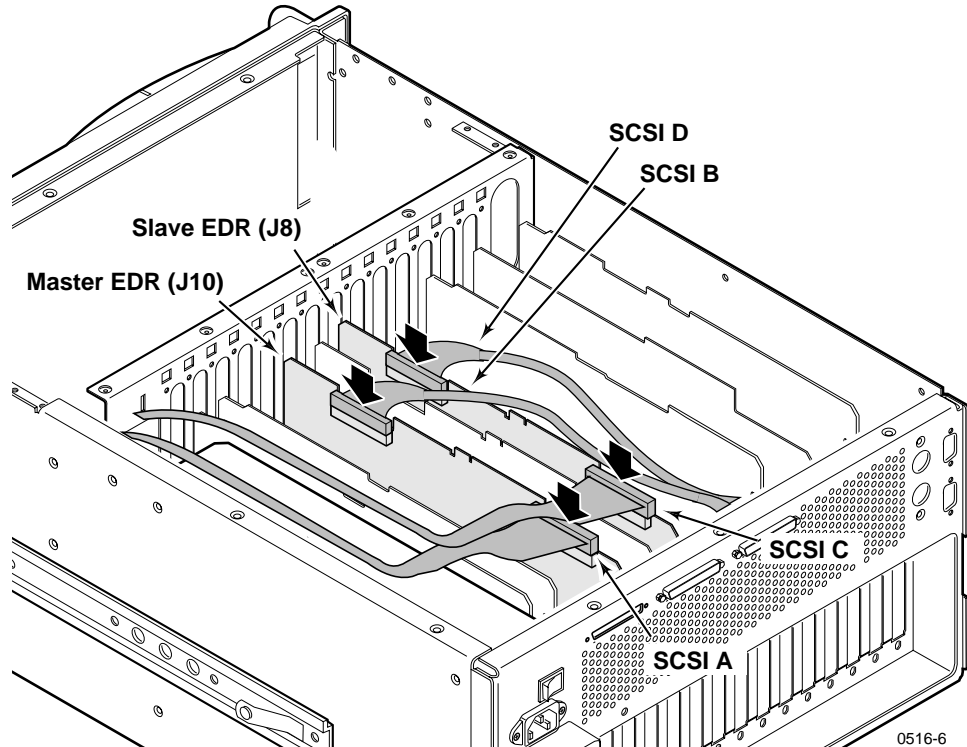

Figure 5. Reconnect the SCSI cables
5. Connect the SCSI cables, as shown in Figure 5.
7. Connect the SCSI cables, as shown in Figure 5 on page 28.
3. Connect the SCSI cables, as shown in Figure 5 on page 28.